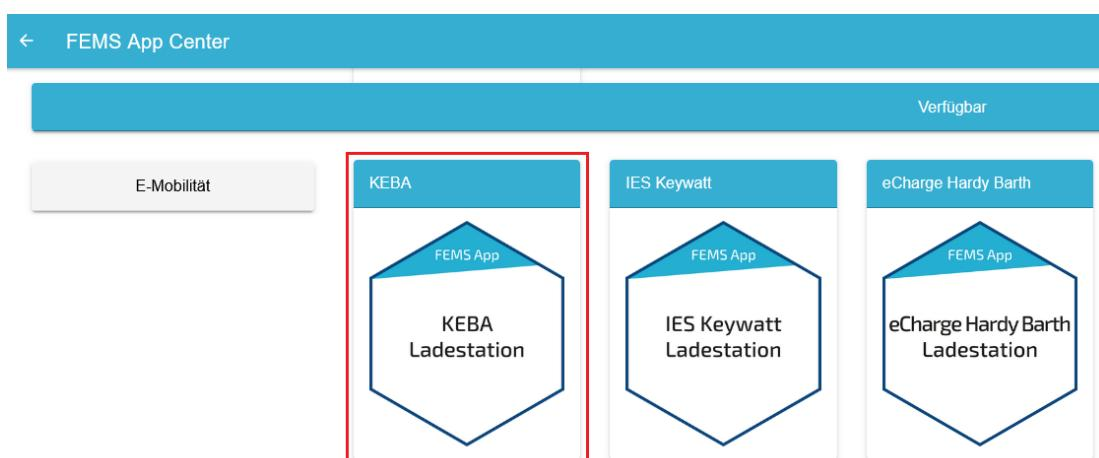

Figure 16. App installation — Variant 2: Step 2
- Figure 16. App installation — Variant 2: Step 2